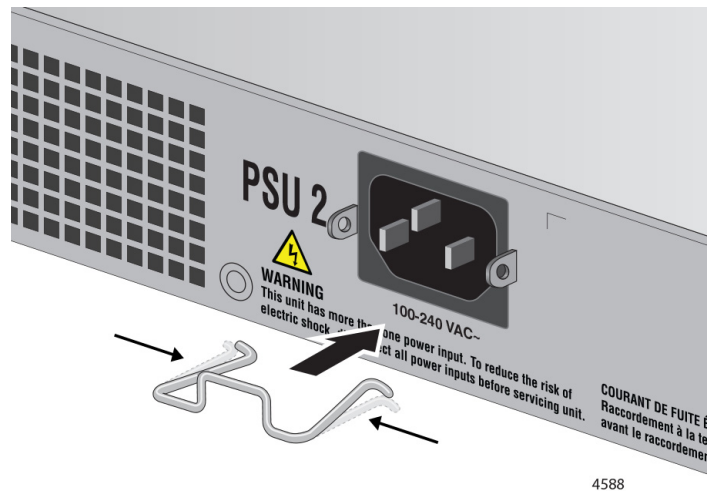

Figure 27. Installing the Power Cord Retaining Clip
1. Install the power cord retaining clip on the AC power connector on the rear panel of the switch. Refer to Figure 27.